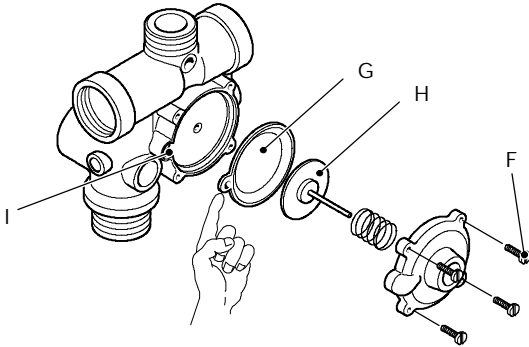

fig. 66
- 3 Unscrew the four screws *F*, open the hydraulic operator and remove the membrane *G* (fig. 66).
Assembling the part, ensure to place the concave side of the membrane towards the actuator plate *H* and the reference hole indicated in the seat *I* (fig. 66).